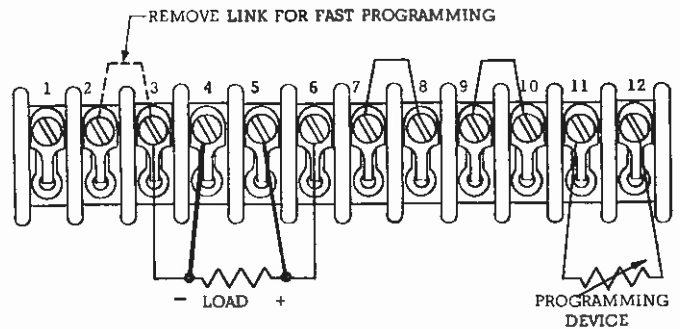

Figure 3-3. Voltage-Mode Programming (with Remote Sensing)
- d. If fast-programming is desired, remove link between terminals 2 and 3 (Figure 3-3).
- e. Remove link between terminals 11 and 12, and connect programming resistor (see Figure 3-3). Use twisted or shielded wire for leads.